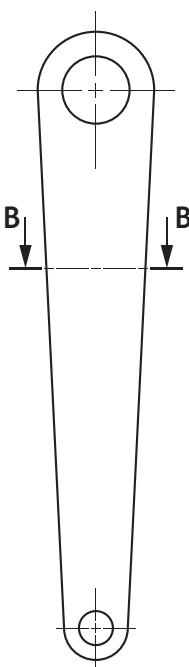

Figure 1
- (i) State the type of sectional view shown in Figure 1.